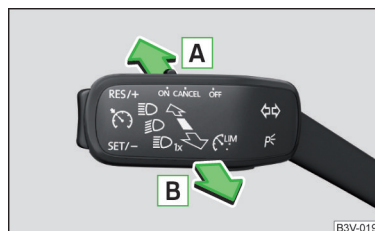

Fig. 72
- Push the lever into the sprung position **A** » Fig. 72. The following indicator light  lights up in the instrument cluster display.